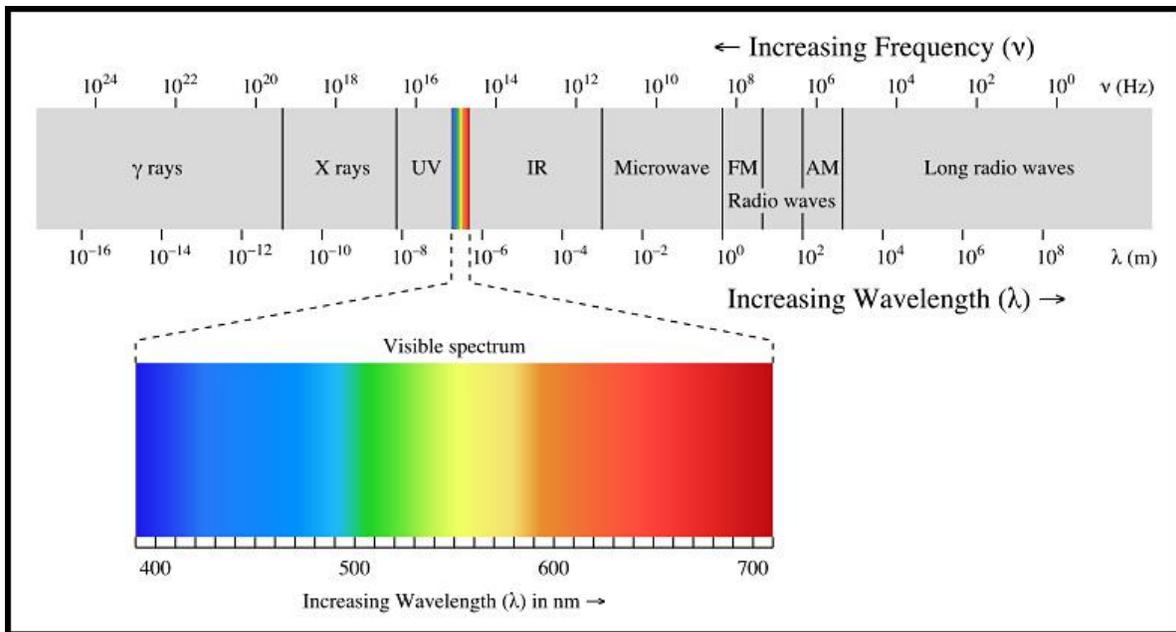

Figure 1-1 Electromagnetic Spectrum
Electromagnetic (EM) radiation is made up of oscillating electric and magnetic fields. The Electromagnetic Spectrum (EMS) is the range of all possible electromagnetic radiation (Figure 1-1) and includes:
- f. Infrared (IR)